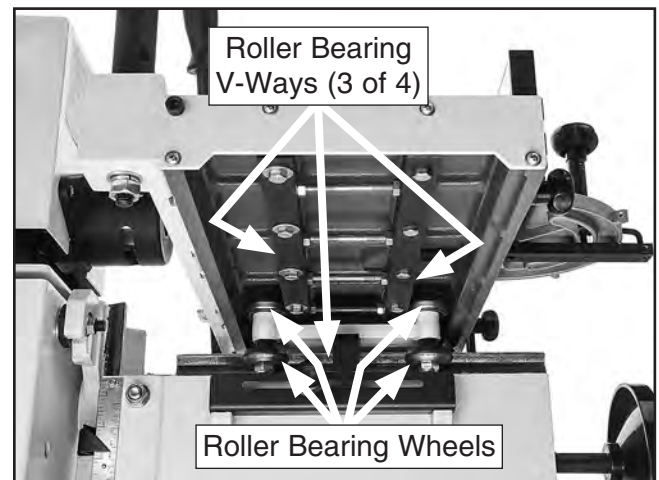

Figure 34. Cleaning and lubrication points for table roller bearing V-ways and wheels (left side shown).
1. Use mineral spirits, stiff brush, and shop rags to clean table roller bearing V-ways and roller bearing wheels where shown in **Figure 34**.